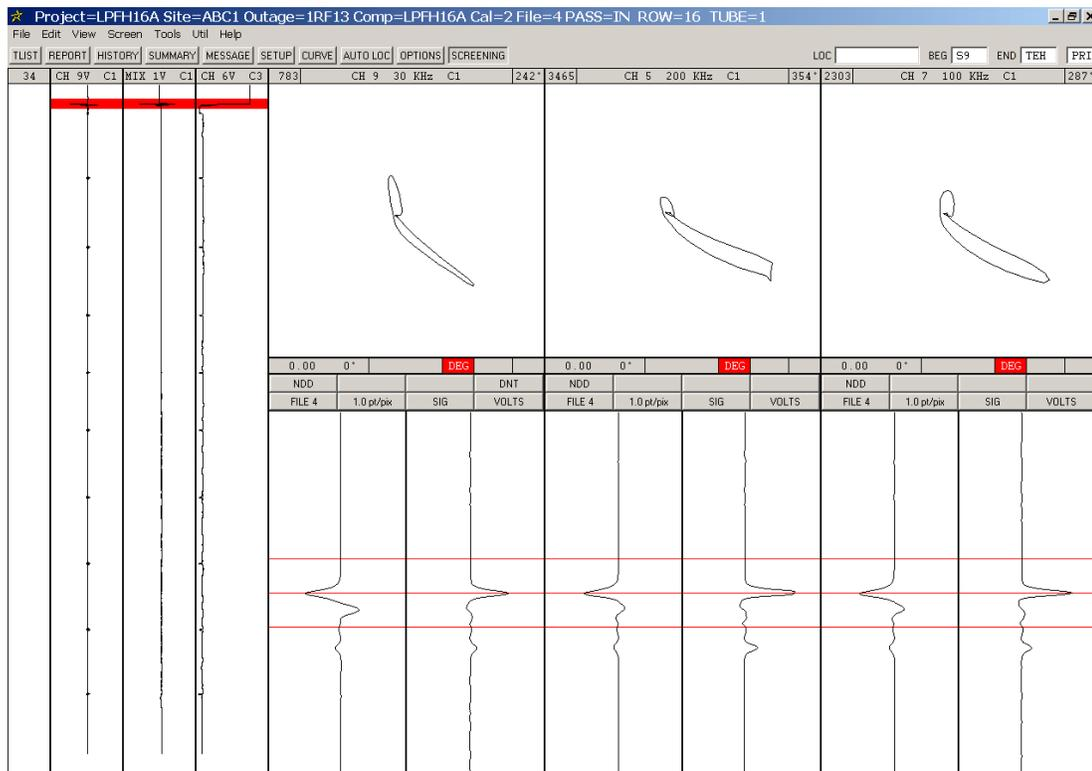

Figure 1-26. Auto-locate - Identifying the Tube End
- STEP 4:** Adjust the *Span* and expanded window of *CH 9* so that the tube end signal is clearly visible in the Lissajous as shown in Figure 1-26.